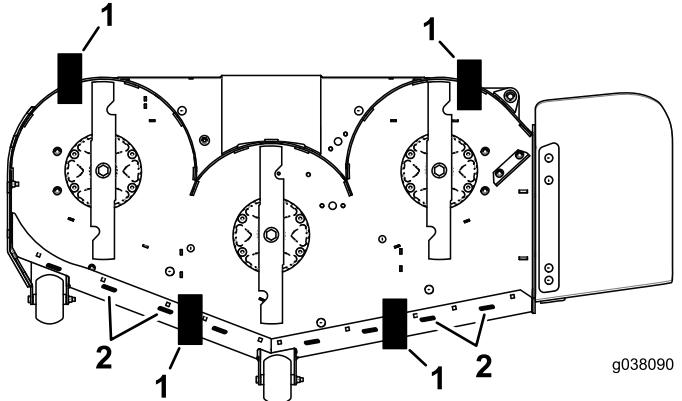

Figure 103
11. Place 2 blocks (see Block Height and Rake Table) under the rear edge of the cutting deck skirt; 1 on each side of the cutting deck (Figure 103).